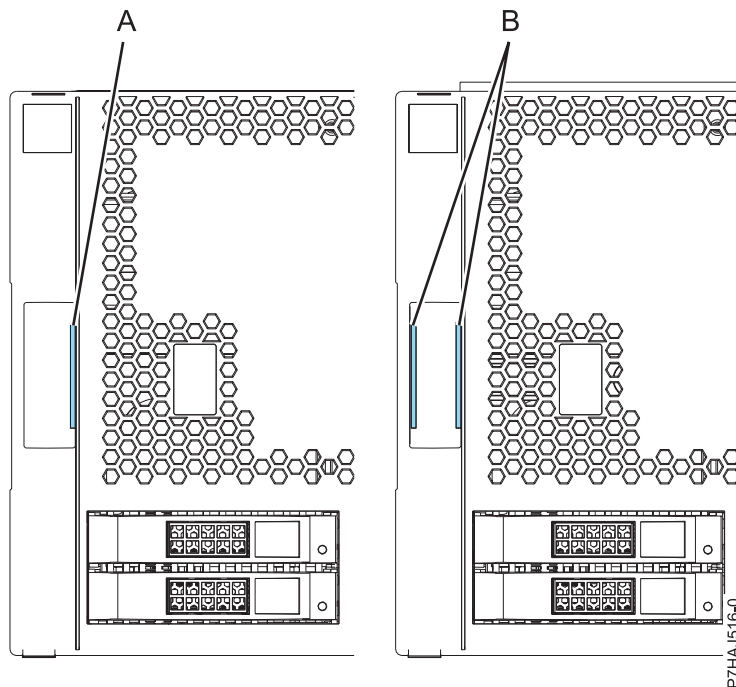

Figure 78. Identifying the older and newer covers
Note: The older covers that were shipped before 1 March 2011 can be identified by a single blue stripe (A) on the cover assembly latches. Newer covers that were shipped after 1 March 2011 have two blue stripes (B) on the cover assembly latches. See Figure 78.